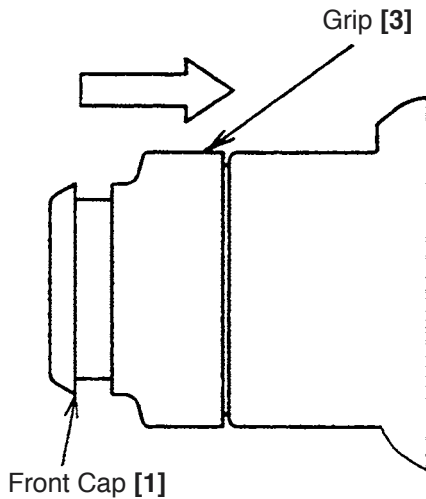
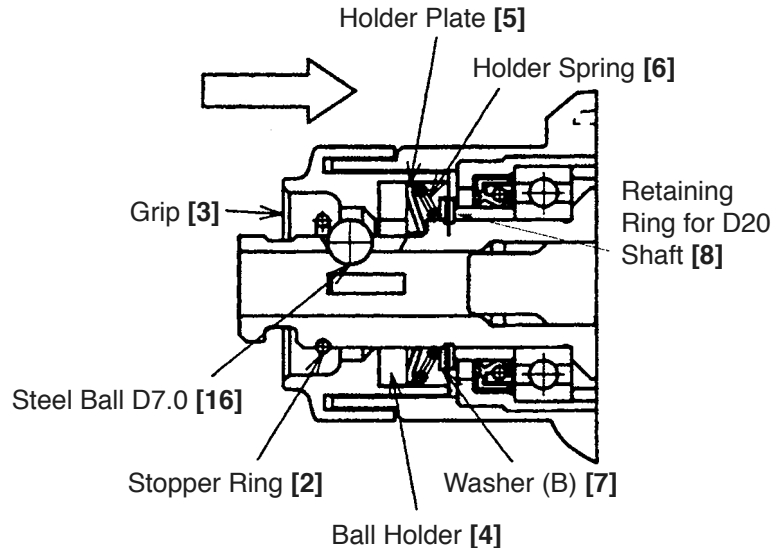

Fig. 17
Fig. 18
(3) Disassembly of the tool retainer
Slide the Grip [3] fully in the arrow direction as shown in Fig. 17 and remove the Front Cap [1]. Pulling the Grip [3] as shown in Fig. 18, remove the Stopper Ring [2] with a retaining ring puller. Then the Grip [3], Ball Holder [4], Steel Ball D7.0 [16], Holder Plate [5], Holder Spring [6] and Washer (B) [7] can be removed from the Cylinder [17].